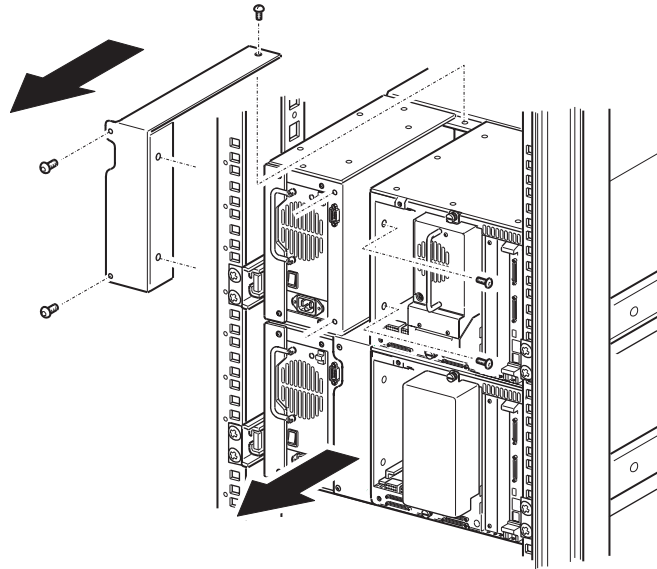

Figure 67. Cover plate removal
4. Remove the cover plate adjacent to the power supply as shown in Figure 67 on page 74.